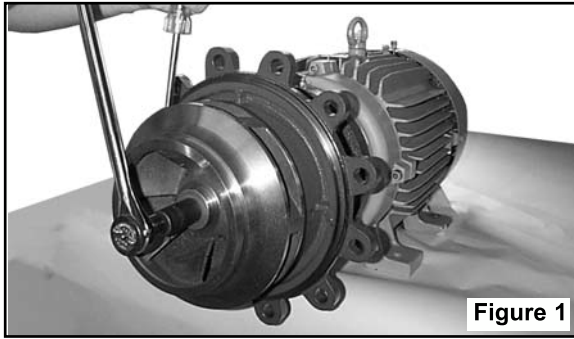

Figure 1
7. Insert a screwdriver in one of the impeller waterway passages and back off the impeller retaining nut with a socket wrench as shown in Figure 1.